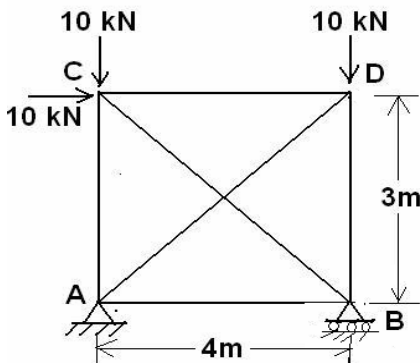

Fig. 5
- (b)** Analyze the truss shown in figure 5 using Castigliano's second theorem. **08**